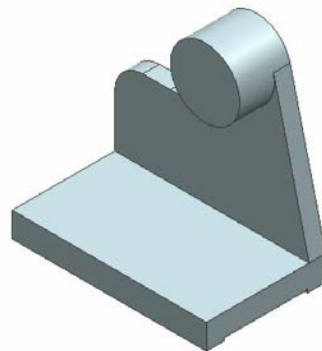

Figure 6-85 Model after creating the third feature
7. Choose the **OK** button from the dialog box. The model after creating the third feature is shown in Figure 6-85.